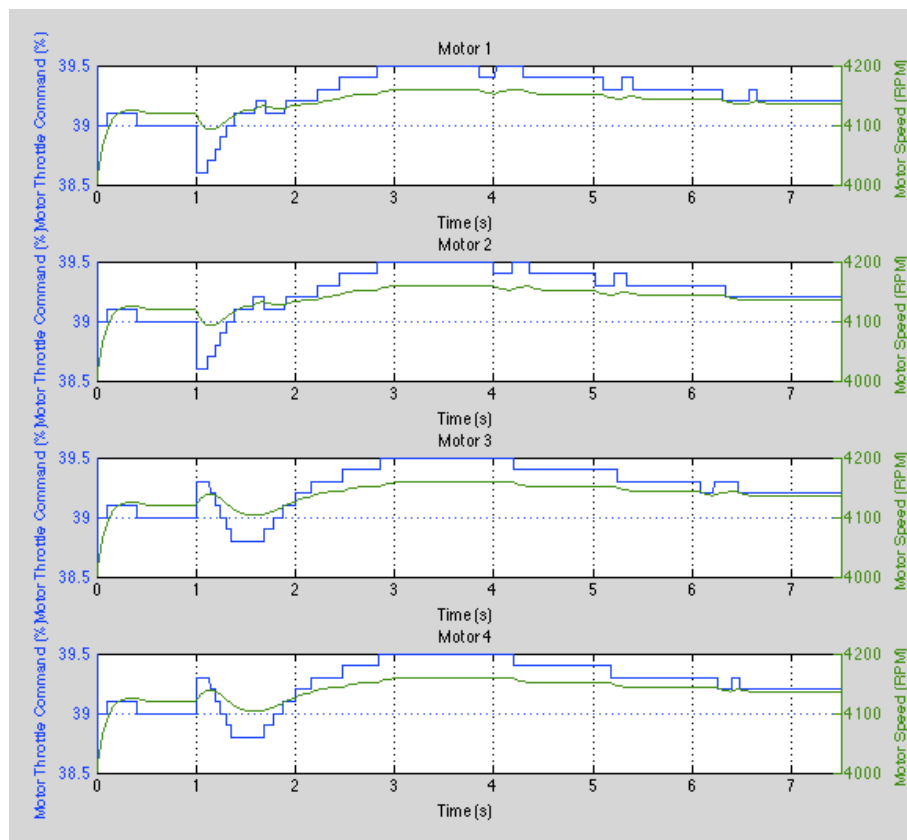

Figure 7. Quantized motor commands
- Quantization effects: Due to data type and Arduino Servo library limitations, our percent throttle signals had to be rounded to the nearest 0.1% throttle. This lack of continuous signal capability has an effect on stability, and we felt it was an important effect to add to the model (See Figure 7).